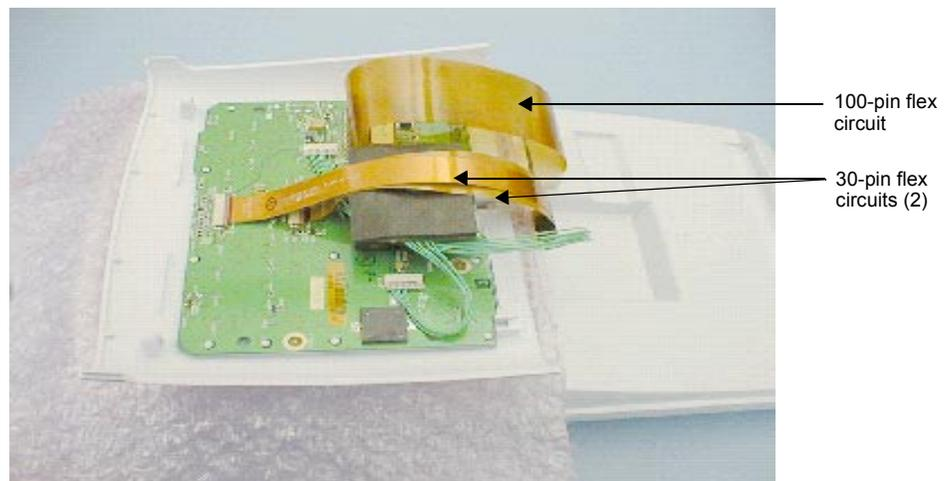

Figure 7.16 Installing the Display Wire Harness and Flex Circuits
- 9 Install the display wire harness and the two 40-pin flex circuits (Figure 7.16).